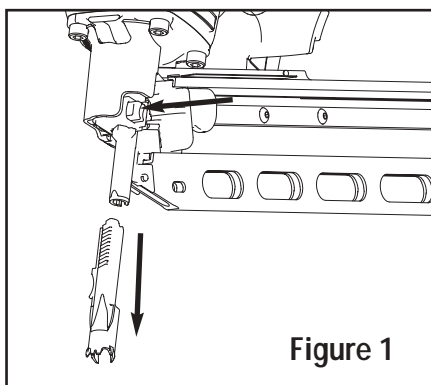

Figure 1
- Push in on locking button.(See figure 1)